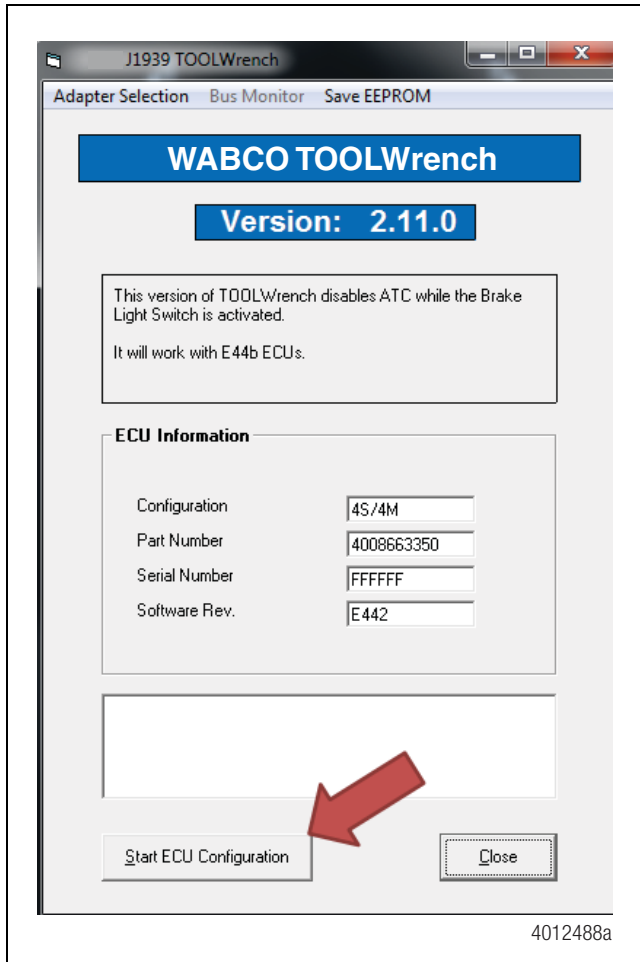

Figure 4
2. The following screen will appear. Click the “Start ECU Configuration” button. Figure 4.